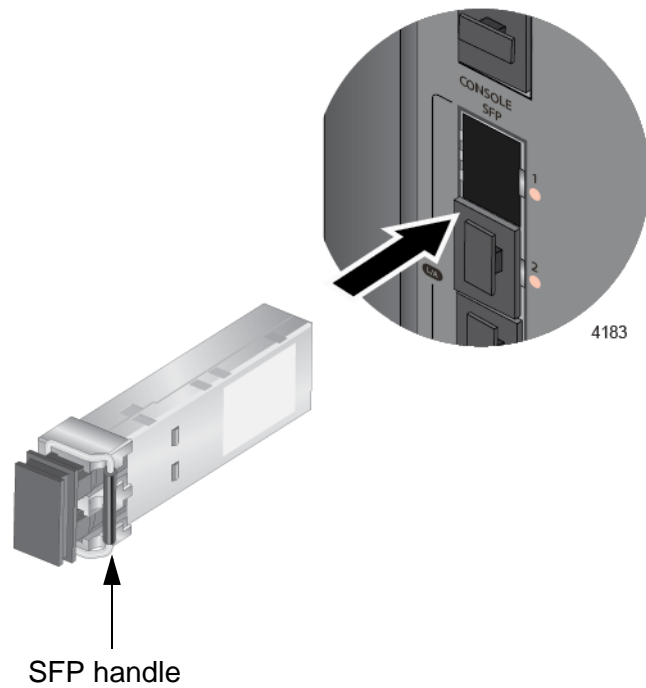

Figure 26. Installing an SFP Transceiver
3. Position the transceiver with its handle on the right and slide it into the slot until it clicks into place. Refer to Figure 26.